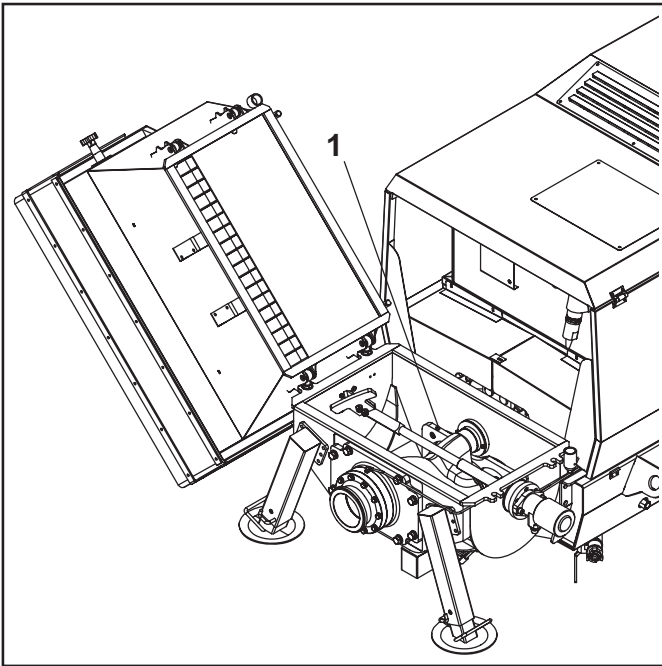

FIG.52
- Remove the wear plate by loosening the 5 fixing screws (FIG.52-REF.1).